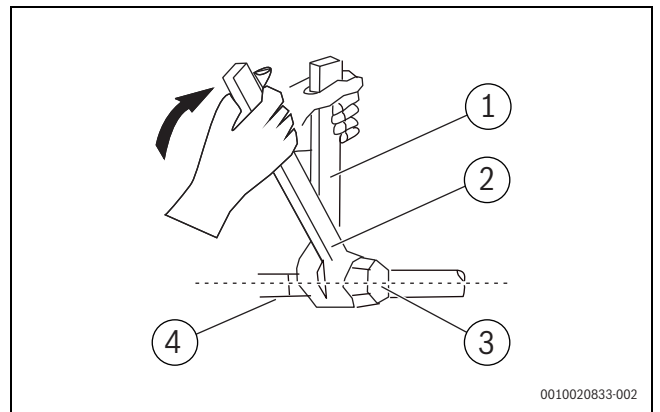

Fig. 2
- ▶ Observe minimum clearances (→ Figures 2 to 3).
- ▶ Determine the installation location, taking the minimum clearances into consideration (→ Fig. 2).